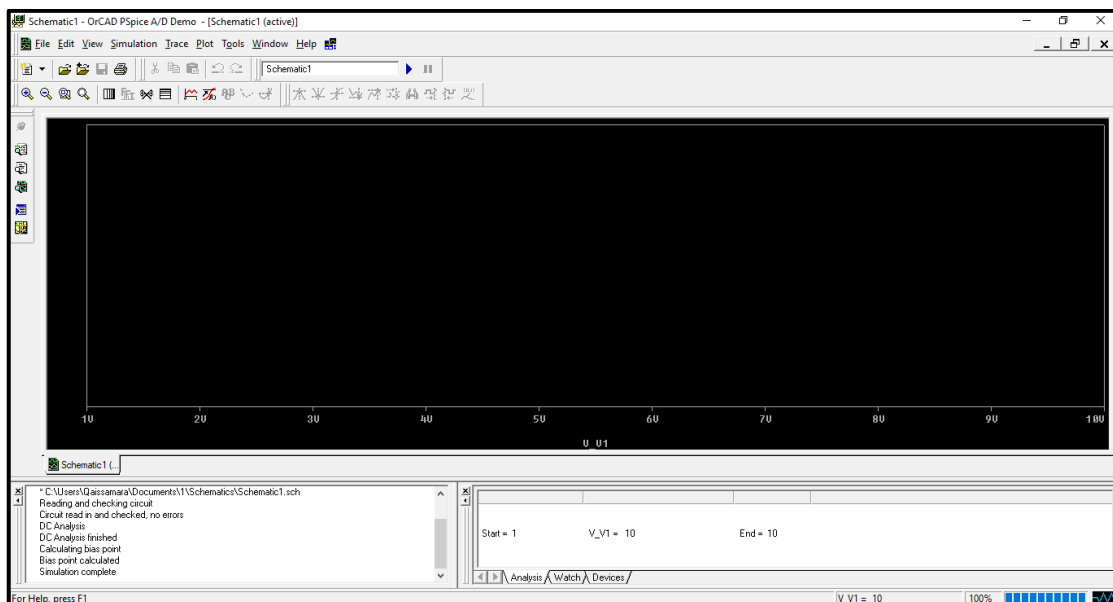

Figure.17
- Click on simulate, then the simulation output window will be as shown in figure.17: